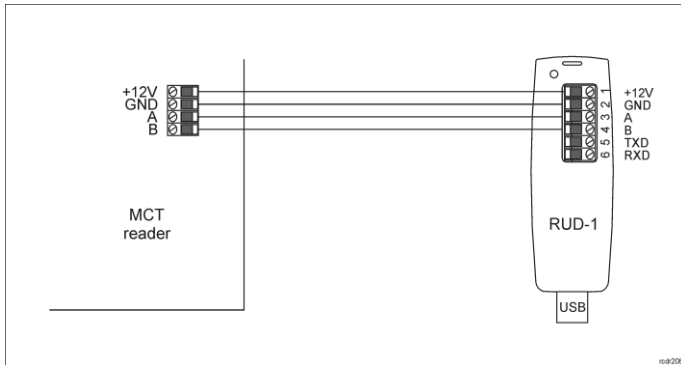

Fig. 1 Connection of MCT reader to RUD-1 interface
The configuration requires connection of reader to computer with RUD-1 interface (fig. 1) and starting RogerVDM software.
1. Connect the reader to RUD-1 interface (fig. 1) and connect the RUD-1 to computer's USB port.
The update requires connection of reader to computer with RUD-1 interface (fig. 1) and starting RogerISP software. The latest firmware file is available at www.roger.pl.